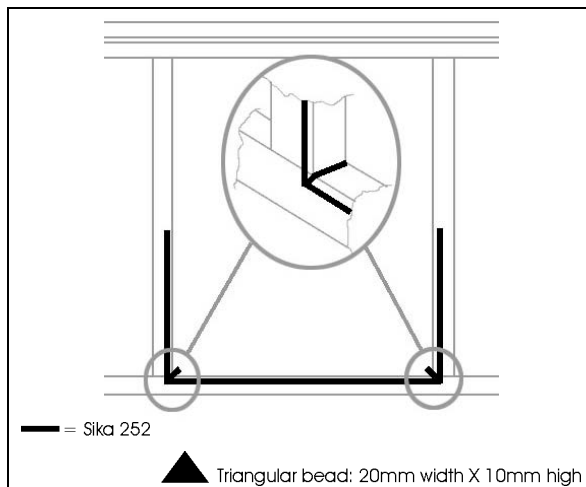

FIGURE 77 : SLIDING WINDOW - SIKA 252 APPLICATION
4. Apply Sika 252 as per FIGURE 77 (triangular bead: 20mm width X 10mm high [13/16"X 3/8"]).